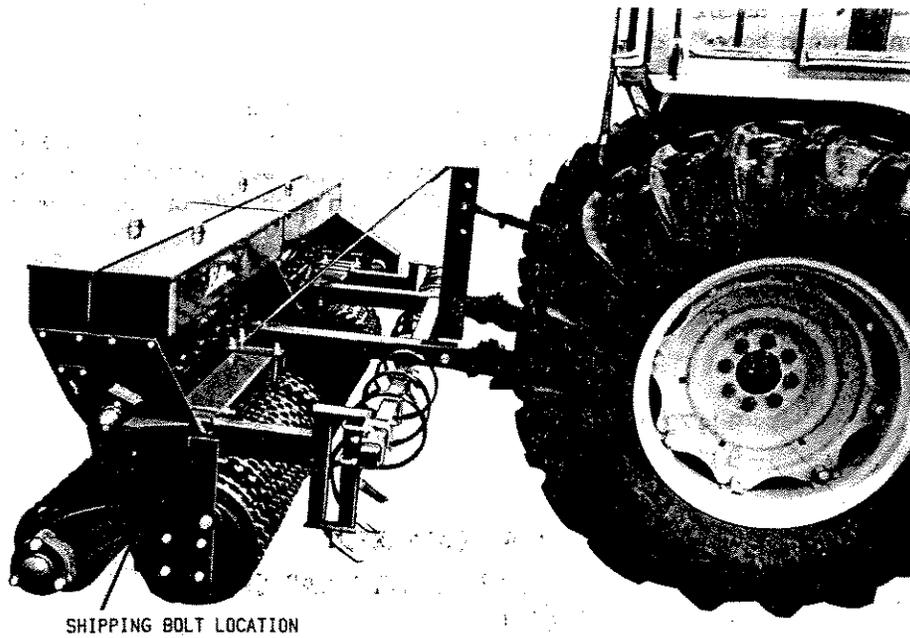

Figure 17
1. Remove two bolts which hold retainer plate and bearing on right end of right seed box. See Figure 17 on page 17.